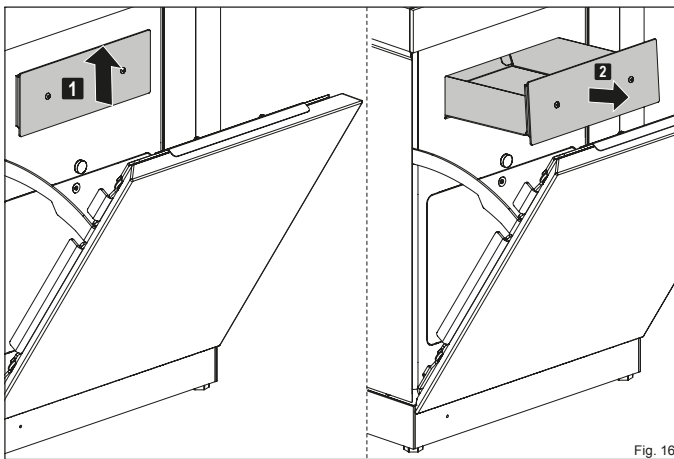

Fig. 16
- ▶ **Pull the ash drawer out of the opening by the cover (Figure 16).**
- ▶ Pull the ash drawer out of the opening by the cover (Fig. 16). Empty the ashes into a fireproof container or vacuum out the drawer.
- ▶ Slide the ash drawer back into the opening (Fig. 16).